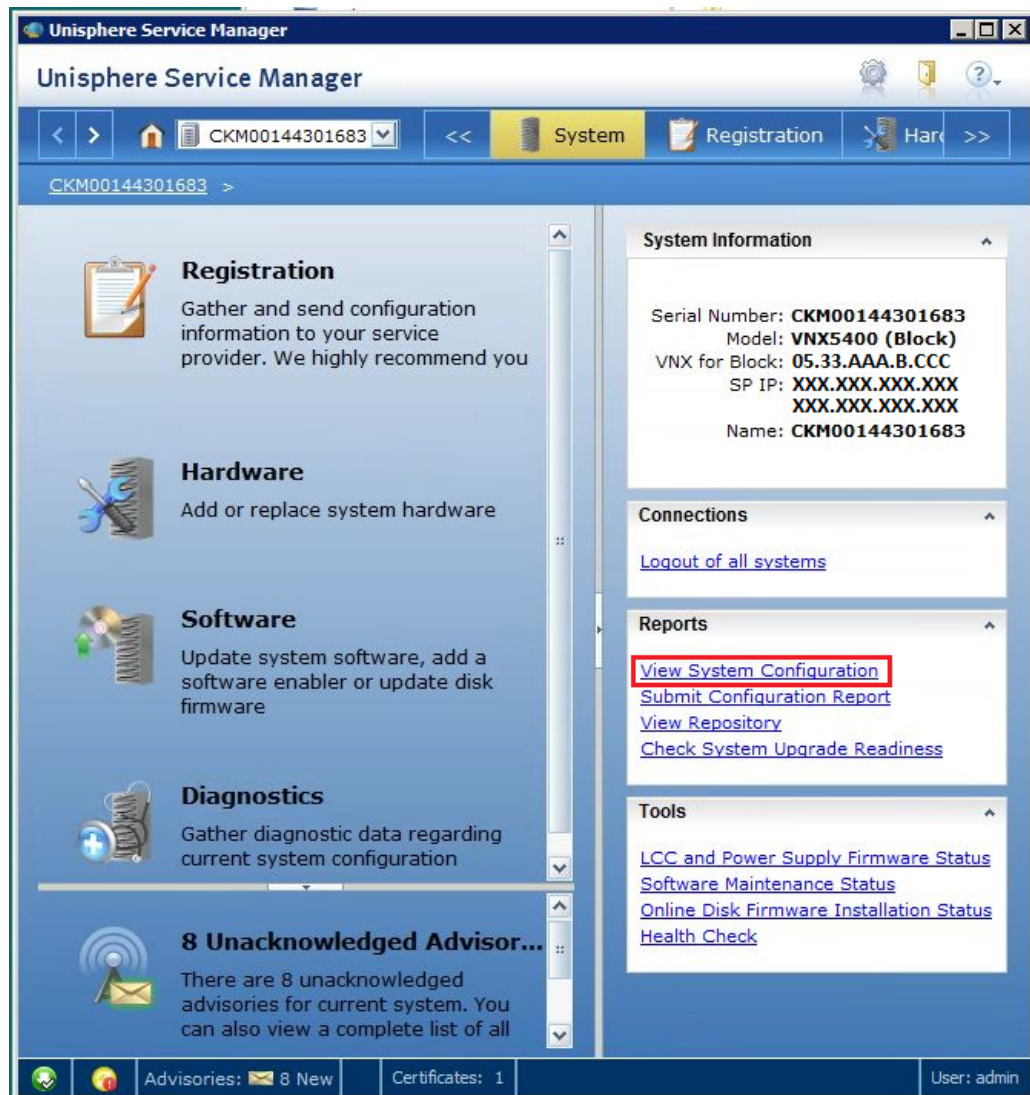

Figure 3 View System Configuration
- a. While still being connected through USM, click **View System Configuration** under **Reports**, see Figure 3.